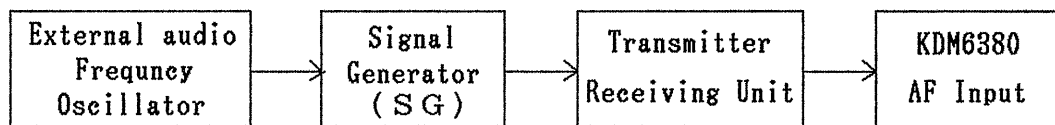

Fig. 4-12
1. Make connections as shown in Fig. 4-12.